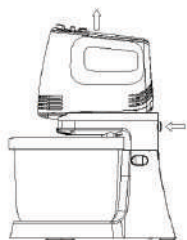
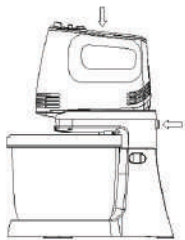
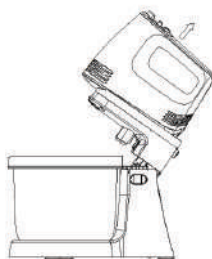

Fig.1
Fig.2
Fig.3
1. Align the hole below the back of the hand mixer with the tuber on top of base, then press down vertically with a little force. Make sure it is assembled correctly (Fig.1). For detaching the hand mixer, push the hand mixer in the arrow indicated direction (Fig.2). Hold the head of mixer to tilt position and pressing the base switch (Fig.3).